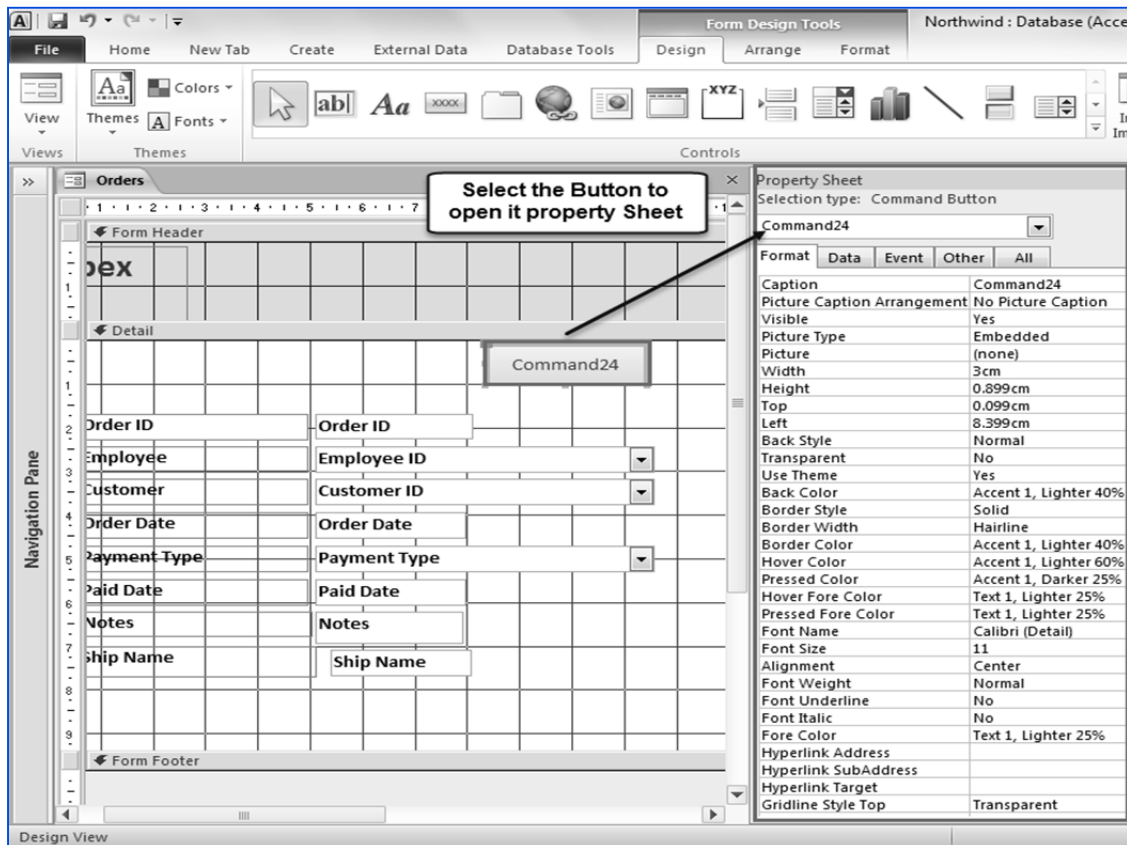

Fig. 4.2.13: Property Sheet for Button
- The *Property* window appears as shown in Fig. 4.2.13.